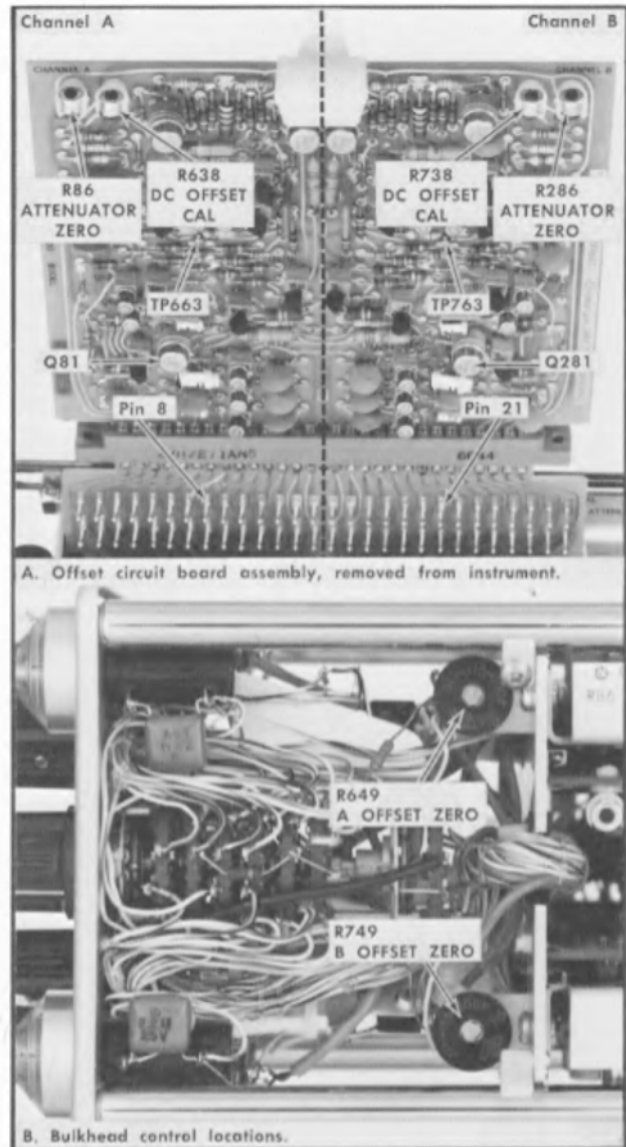

Fig. 7-15. Control locations, Type 356 top view.
20. Adjust Offset Cal and Offset Zero ❶
c. Check that the test oscilloscope trace is at the centerline, -995 mV at TP663. If trace is not at the centerline, adjust the A Offset Cal control, R638 shown in Fig. 7-15, for -995 mV, trace at test oscilloscope centerline.
f. Repeat the check and/or adjustment for the B Channel, using TP763. Control locations are shown in Fig. 7-15.
21. Adjust Attenuator Zero ❶